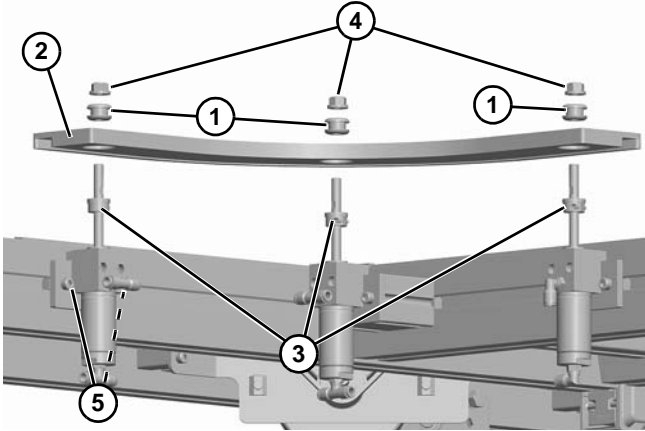

**Figure 85**
1. Install drop-in tee bars (**Figure 85, item 1**) in conveyor rail channel.
2. Loosely fasten two cylinder assemblies (**Figure 85, item 2**) to conveyor rail with socket head screws (**Figure 85, item 3**) as shown (notice fittings).
3. Repeat for cylinder assembly with spacer (**Figure 85, item 4**).